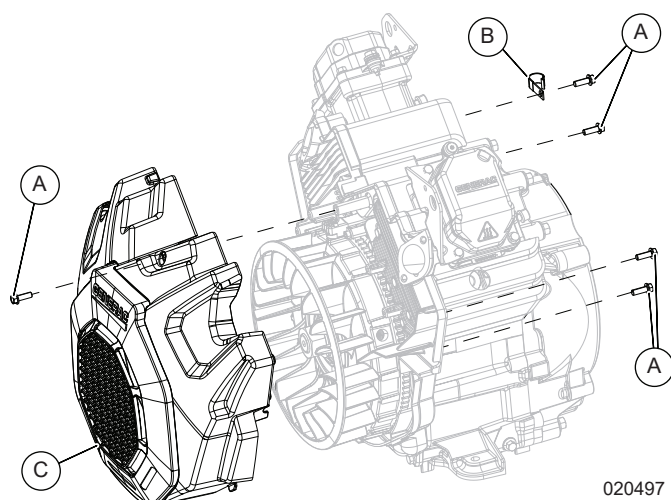
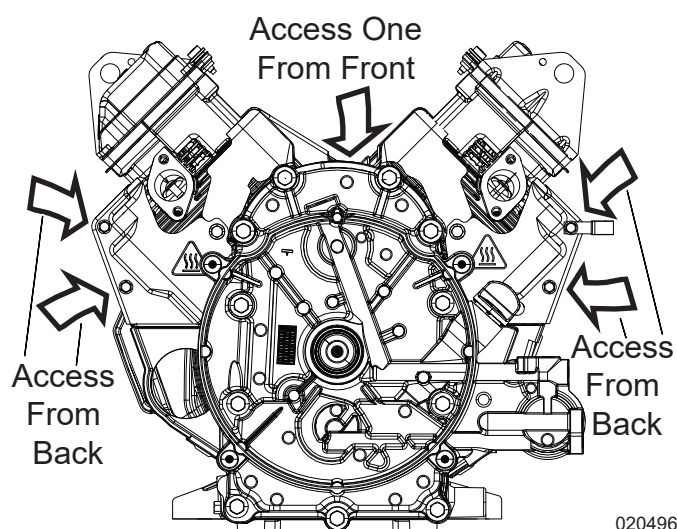

Figure 6-17. Remove Blower Housing
Figure 6-18. Blower Housing Fastener Locations
1. See Figure 6-17 and Figure 6-18. Remove five fasteners (A), oil drain J-clip (B), and blower housing (C).